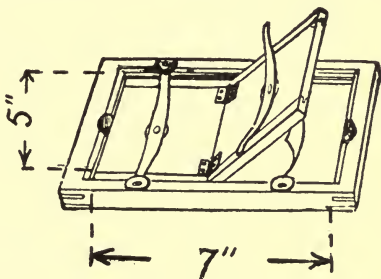

FIG. 55. A PHOTO PRINTING FRAME
The Materials Required.—Buy, or you can make, (1) a 5 x 7 *printing frame* as shown in Fig. 55 and get a sheet of clear glass to fit it, and (2) a couple of dozen sheets of 5 x 7 *blue-paper*⁴¹ which you can buy at any photographic supply house.